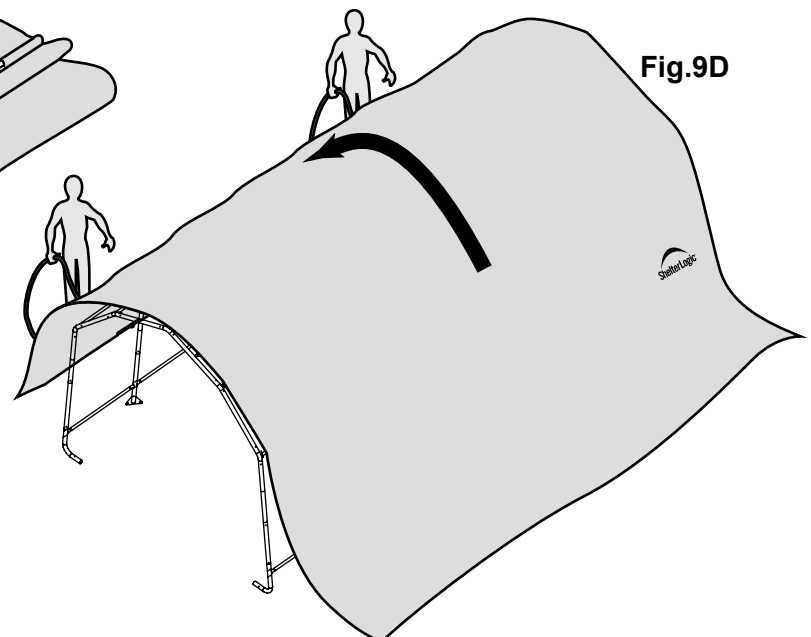

Fig.9D
D. Move to the other side of the frame and pull the cover over the frame with the rope. This may require two or more people. Fig. 9D.